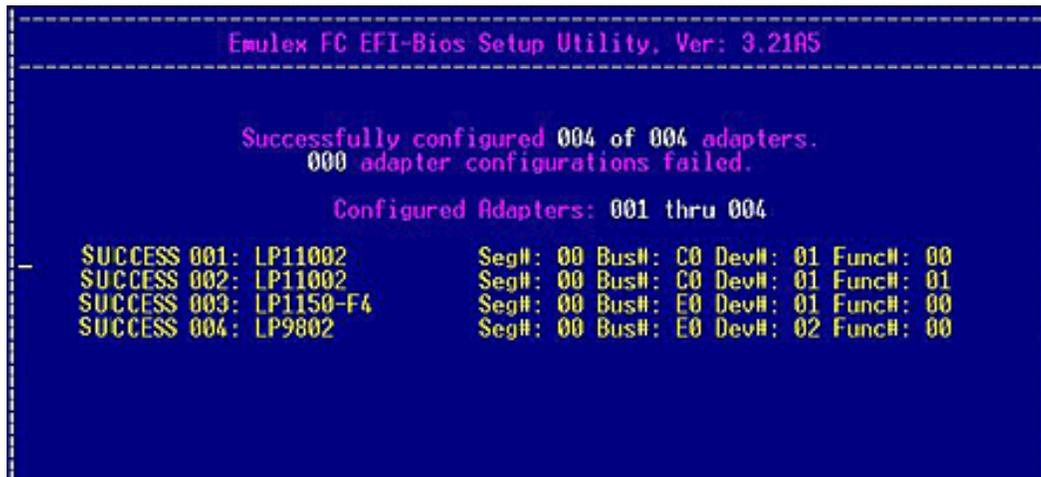

Figure 56: Successful Batch Configuration screen
- Press **<P>** to configure the selected adapters. If the adapters are configured successfully, a screen similar to Figure 56 is displayed.
5. Press **<P>** to configure the selected adapters. If the adapters are configured successfully, the screen shown in Figure 56 is displayed.